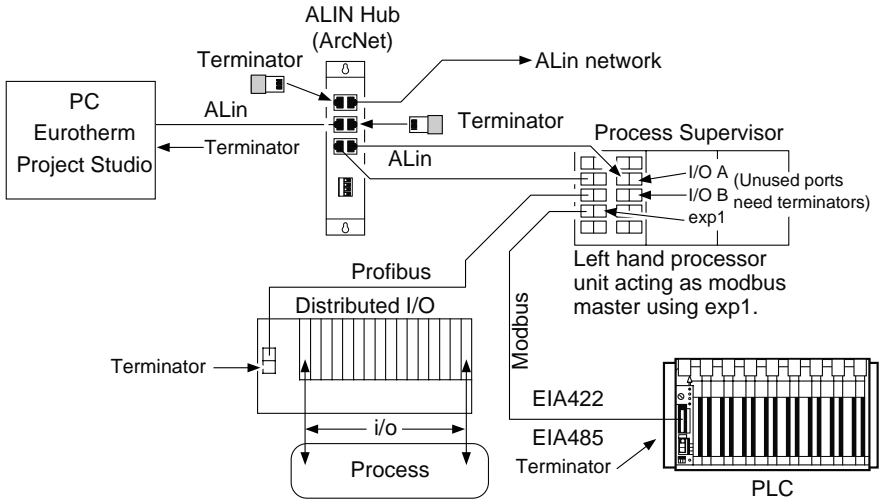

Figure 1.3.2a Typical communications architecture
- **ALIN.** ALIN-based network, allowing communications via a ‘daisy-chain’ configuration (or via a central ALIN ‘hub’) with I/O modules and the wider network. See figures 1.3.2a and 1.3.2b.